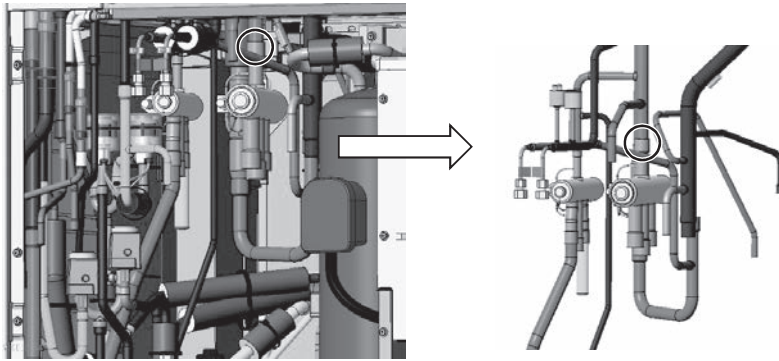

Figure 14
- (14A) Remove four-way valve (21S4a) by removing the braze from the area above four-way valve (21S4a) as shown in Figure 14.